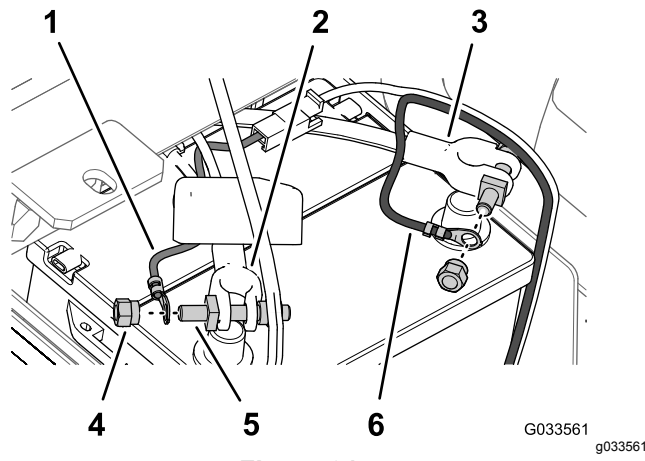

Figure 31
6. Secure the ring terminal of the fusible link (sprayer wire harness) to the post of the terminal bolt that you assembled to the positive battery cable with a clamp nut (Figure 31).
7. Secure the ring terminal of the negative wire (black—sprayer wire harness) to the post of the terminal bolt that you assembled to the negative battery cable with a clamp nut (Figure 31).